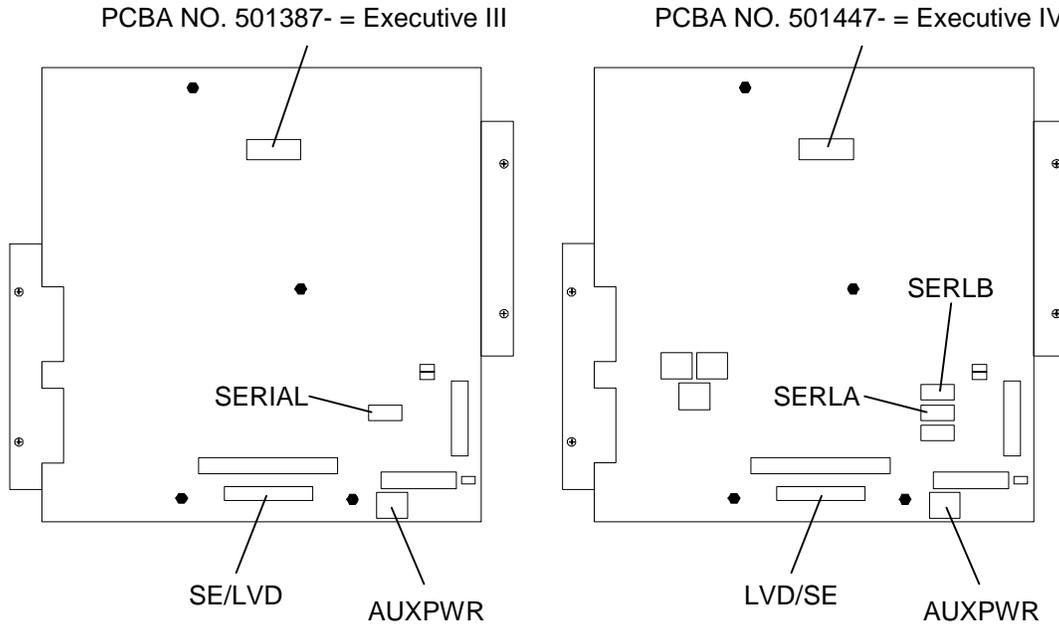

Figure 4-12 Executive PCBA Identification
8. The FCO's SERIAL ribbon cable will connect to differently named connectors on the Executive PCBA depending on which version of Executive PCBA is installed in the library. Executive III PCBA's will have part number 501387-printed on them and Executive IV boards will have part number 501447- on them. Refer to Figure 4-12 to determine which version of Executive PCBA the FCO is being connected to.